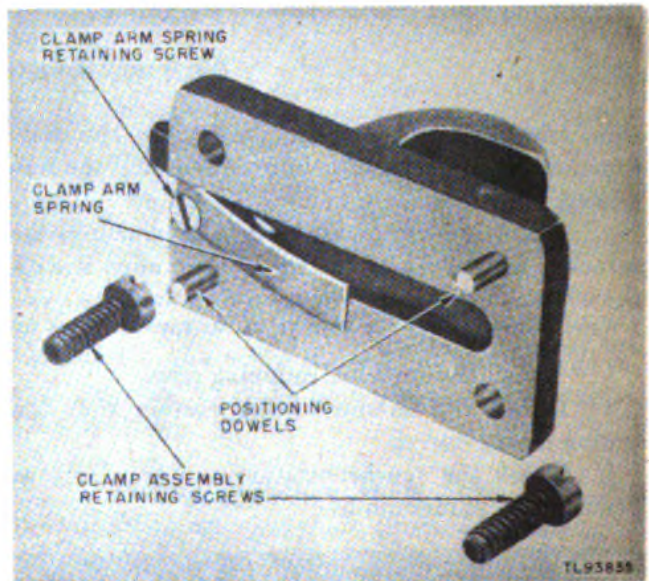

Figure 128. Parallax adjustor assembly removed from base plate, clamp arm spring partially removed.
68. Replacing Clamp Arm Spring (fig. 128)